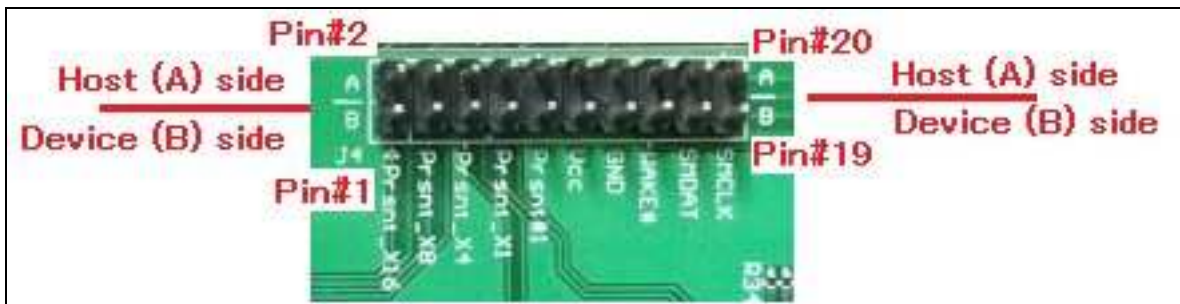

Figure-3: J4 pin header for PCIe side-band signal
J4 is 2x10 pin header shown in figure-3 below, and connects PCIe side-band signals of host side and device side. It also prepares Vcc power supply pin (Pin#11, #12) which is selectable between 3.3V and 2.5V, so user can build original daughter board on this pin header using this power supply. Figure-3 shows pin number definition, even number pin at outer side is for host (A) side, and odd number pin at inner side is for device (B) side. When user set 2.54mm-pitch short plug on the same row of J4, it can directly connect same PCIe side-band signal between host and device. For more detailed J4 pin assignment, refer to the schematic in the later part of this document.